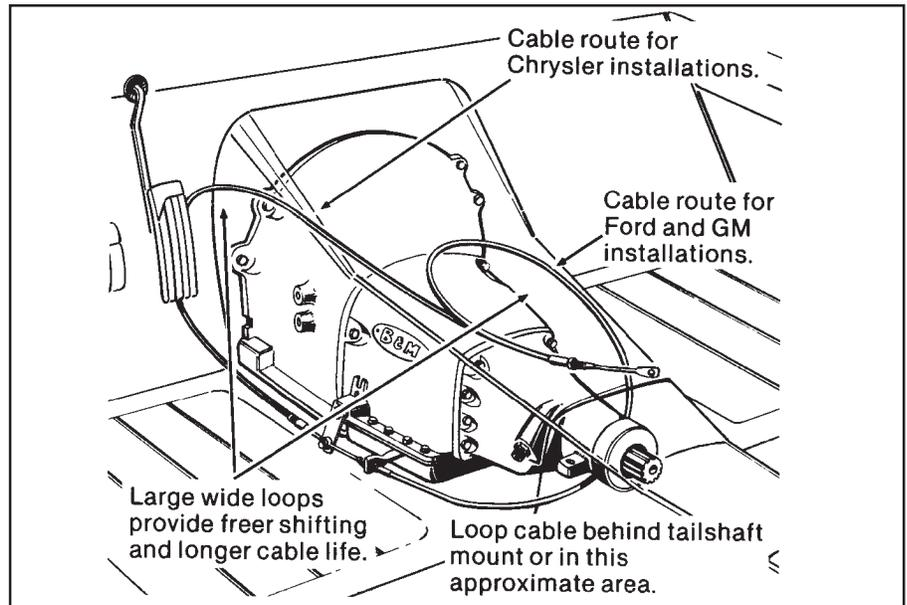

Figure 3
STEP 7. Install the shifter mechanism into the vehicle. Slide the shifter cable through the carpet and the hole in the floorboard. Bolt the shifter down using four 1/4" hex bolts and nuts. If required use 1/4" washers as shims between the shifter mechanism and the floor to level the shifter. Do not bend the shifter mounting tabs. **ROUTE THE CABLE AS SHOWN IN FIGURE 3, AVOID SHARP BENDS WHICH WILL KINK AND DAMAGE THE CABLE.** Use cable clamps or tie wraps to secure the cable housing to the chassis to avoid contact with hot engine or exhaust system. Seal the cable hole shut to avoid the entry of exhaust fumes or water. For General Motors vehicles go to **Step 8**, for Ford vehicles go to **Step 13**, for Chrysler vehicles go to **Step 19**, for aluminum Powerglide equipped vehicles go to **Step 25**.
STEP 10. Route the shifter cable according to **Figure 3**. Avoid kinks and sharp bends and route the cable away from hot engine or exhaust parts.
STEP 16. Route the shifter cable according to Figure 3. Avoid kinks and sharp bends and route the cable away from hot engine or exhaust parts.
STEP 21. Route the shifter cable according to Figure 3. Avoid kinks and sharp bends and route the cable away from hot engine or exhaust parts.
STEP 34. Route the shifter cable according to **Figure 3**. Avoid kinks and sharp bends and